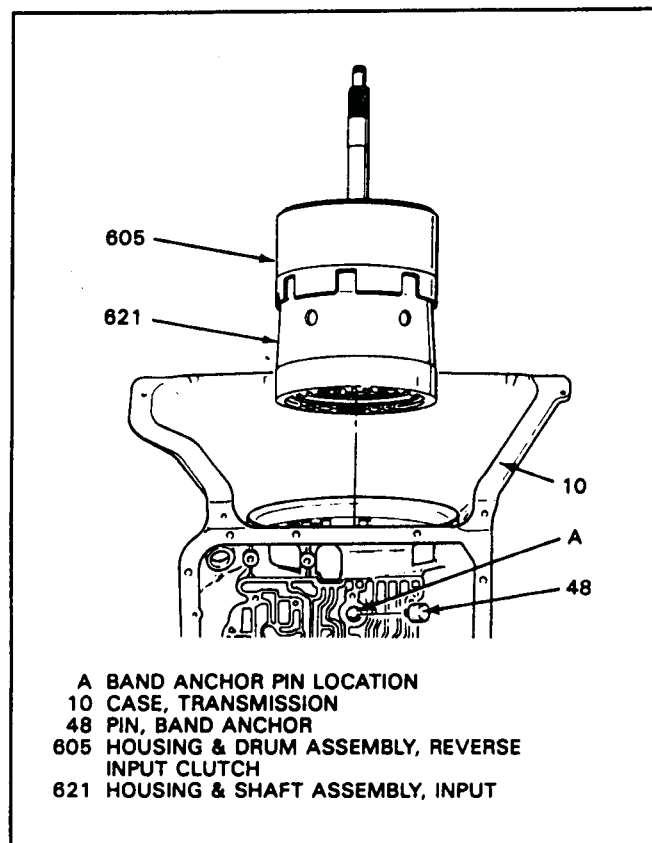

Figure 161
5. Install the reverse input and the input clutch housing assembly into the transmission case as shown in Figure 161.